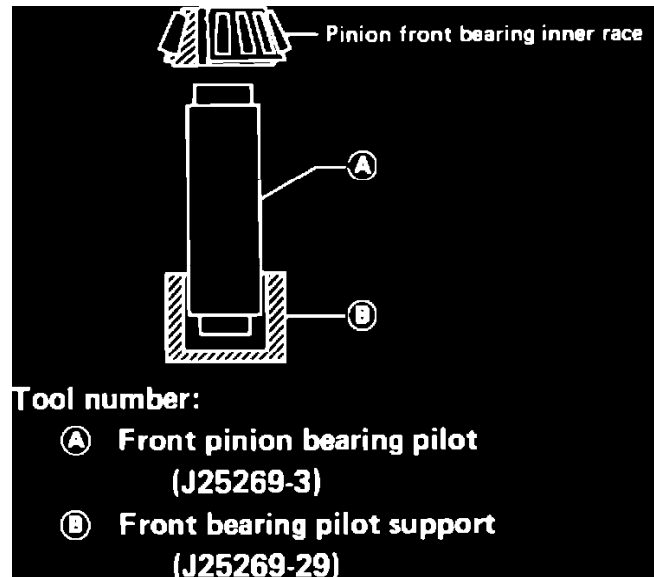

Fig. 32 Installing rear pinion bearing pilot & gauge plate on hex head long bolt
1. Install rear pinion bearing pilot into gauge plate and slide over hex head long bolt, **Fig. 32**.